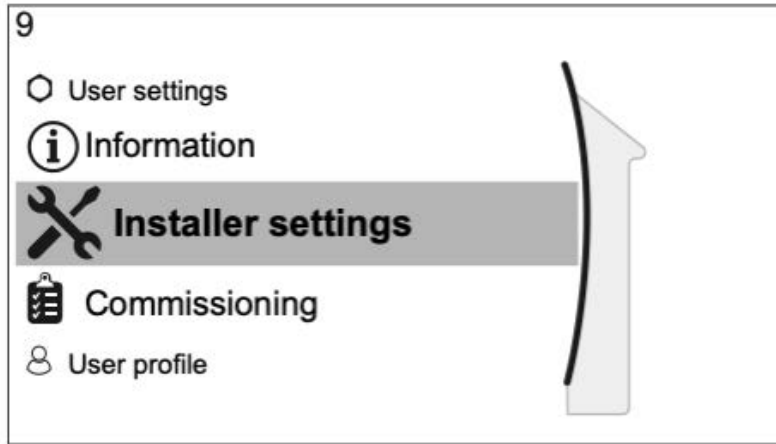

figure 1
6. Go to “Installer Settings” (figure 1).